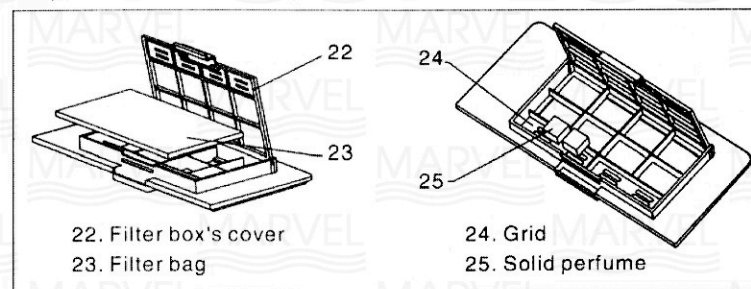

fig.7
1. Remove filter box, open its cover, there is a filter bag inside. It can prevent blockage of dust lint comes from air inlet. Please contact our distributors to order this filter bag (see fig.7).
2. There are 2 grids in filter box. A solid perfume can be put here to bring fresh air while drying hands (see fig.7).